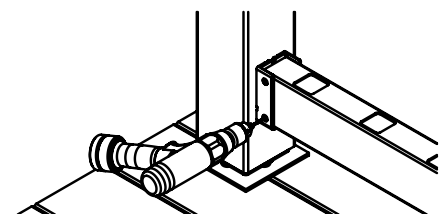

Figure 3
With bottom rail cut to length, set rail into bottom rail brackets. Next pre-drill four 5/32" holes into rail, then use four (4) #12 x 1" S.S. flat head screws to fasten (see Figure 3). Repeat the opposite post.